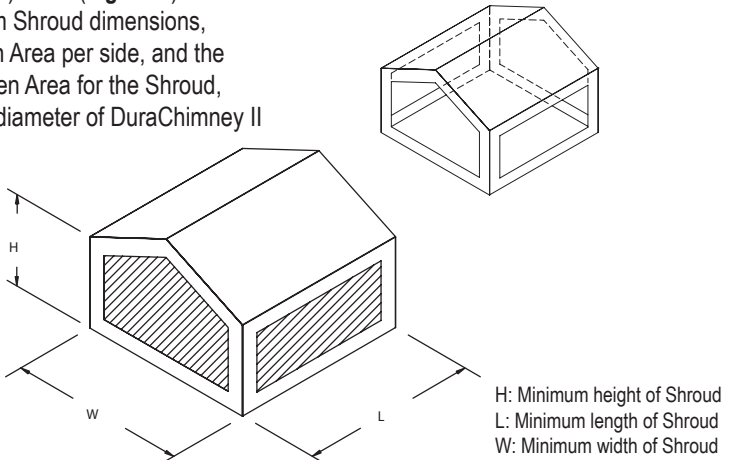

Figure 2
The House style shroud is roughly square or rectangular with a closed top and exhaust openings on four (4) sides (**Figure 2**). Table 1 lists the minimum Shroud dimensions, the minimum Open Area per side, and the minimum Total Open Area for the Shroud, depending on the diameter of DuraChimney II installed.